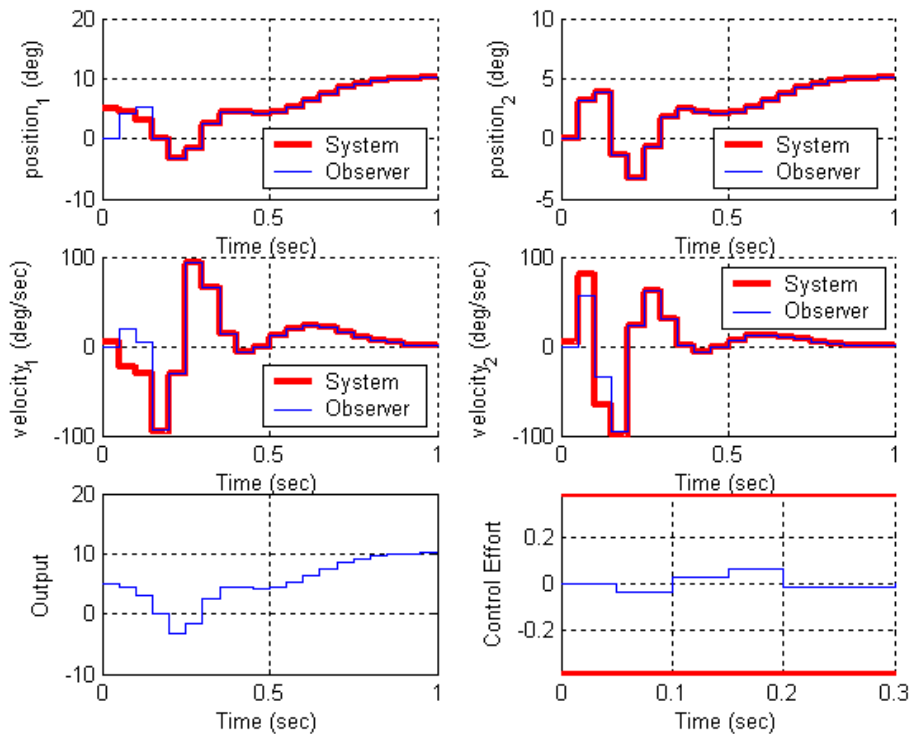

Figure 10. Results for problem 4b.
b) Assume the only known state is the position of the second disk, and the output is the position of the first disk. Use a sampling interval of 0.05 seconds, assume all the state feedback poles are at 0.5, and the observer poles are at [0.01 0.015 0.02 0.025]. Also assume the system initially starts with disk 2 at zero degrees, disk 1 at 5 degrees, and both disks with an initial velocity of 5 degrees/sec (be careful of units here! The model works in radians.). The initial delayed input is assumed to be 0. The initial estimates of the observer are zero. For a 10 degree step input you should get the graph shown in Figure 10. Turn in your plot.